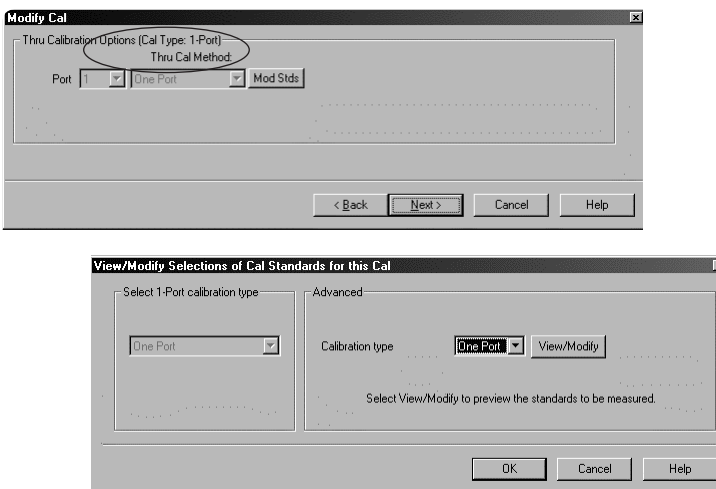

Figure 40. Viewing *Modify Cal* displays.
4. Use dropdown menu and then the scroll bar to select the DUT connectors (Figure 39, bottom). Also, use dropdown menu to select the available calibration kit based on the selected DUT connectors. Notice, the *Cal Method* here is simply *1-Port*. Plus, if "Modify Cal" is not selected, then steps shown in Figure 40 will be skipped. Click **Next>**
5. Having selected "Modify Cal" allows you to look at the screens shown in Figure 40. However, in the case of 1-port calibrations, you are limited to SOL calibration only. Thus, clicking on "Modify Cal" does not offer you additional selection. Your *Cal Type* remains as *One Port*.